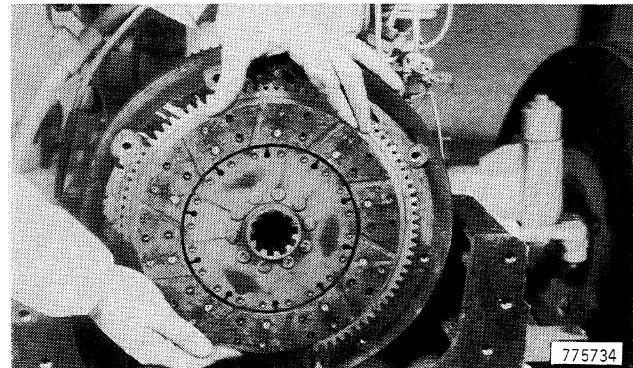

Figure 113
- 18. Install the outer clutch disc as shown in Figure 113. Outer clutch disc has the words "flywheel side" stamped on it.